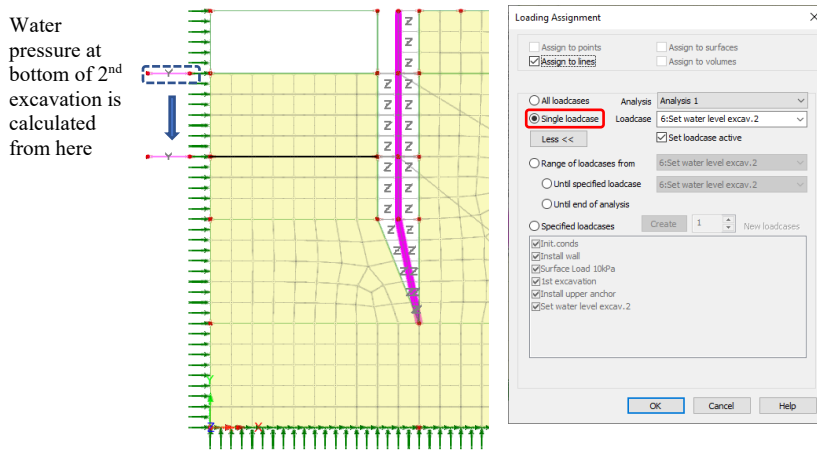

Figure 49: Setting water pressure at bottom of 2nd excavation
- Select the line at the bottom of the 2nd excavation and assign the Water pressure distribution Load attribute **1st de-watering pwp**. Ensure that the **Single loadcase** radio button is selected (figure 49).